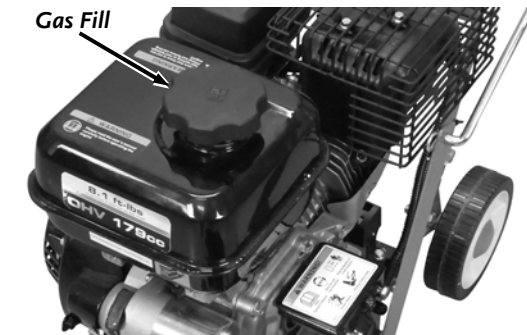

Figure 8
6. Remove the Gas Fill Cap and fill the Gas Tank with fresh, unleaded gas (with a minimum of 85 Octane) to approximately 1" to 1-1/2" below the top of the fill neck to allow for fuel expansion (**Figure 8**). Be careful not to overfill and reinstall the Gas Fill Cap before starting the engine. See your Engine Owner's Manual for more detailed information.